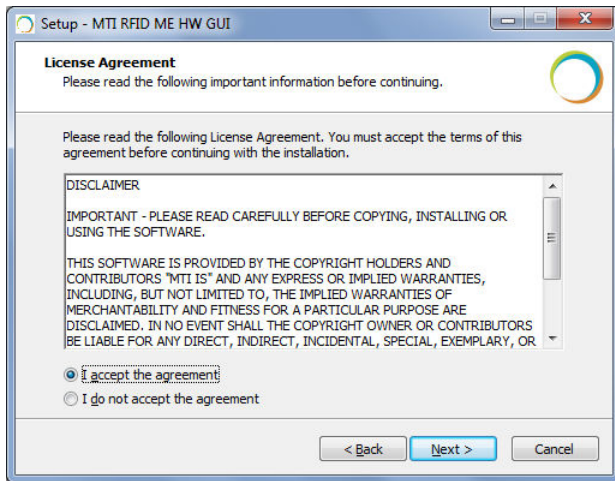

Figure 2
2.1.2. Read the license agreement, and if acceptable select “I accept the agreement” as shown in Figure 2.